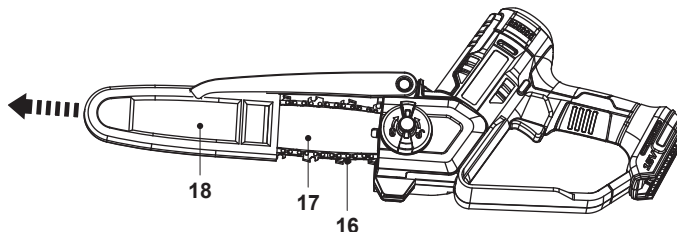

Fig. 11
Remove the guide bar cover (18) from the guide bar (Fig. 11), and the saw chain (16) and the guide bar (17) were already pre-assembled upon original delivery.